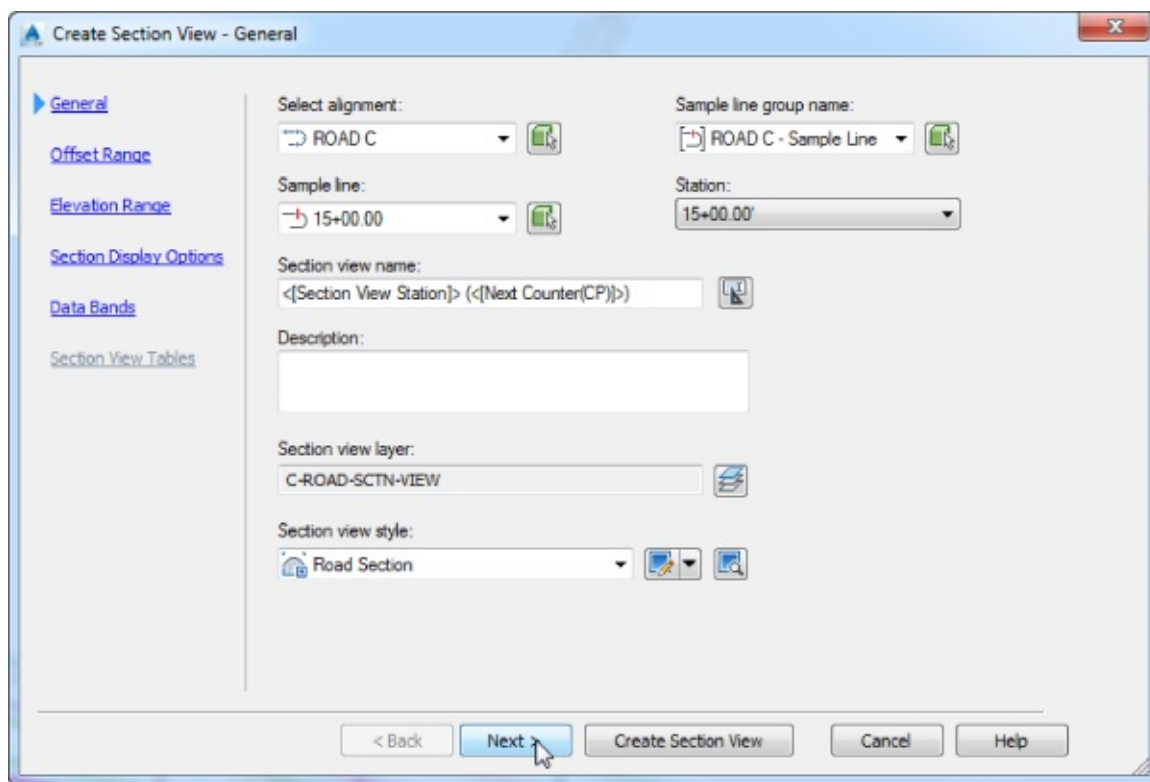

Figure 12.8 The General page of the Create Section View Wizard
4. Verify that your alignment and sample line group name are correct on the General page of the wizard, shown in Figure 12.8.